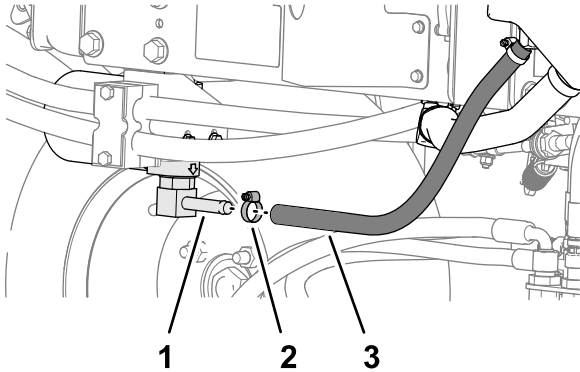
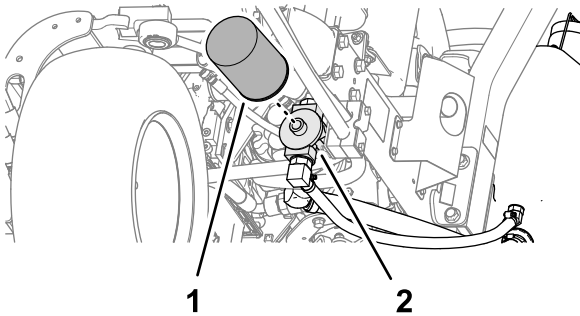

Figure 89
Figure 90
2. Disconnect the hydraulic hose (Figure 89) or remove the hydraulic filter (Figure 90) and drain the hydraulic fluid into a drain pan.